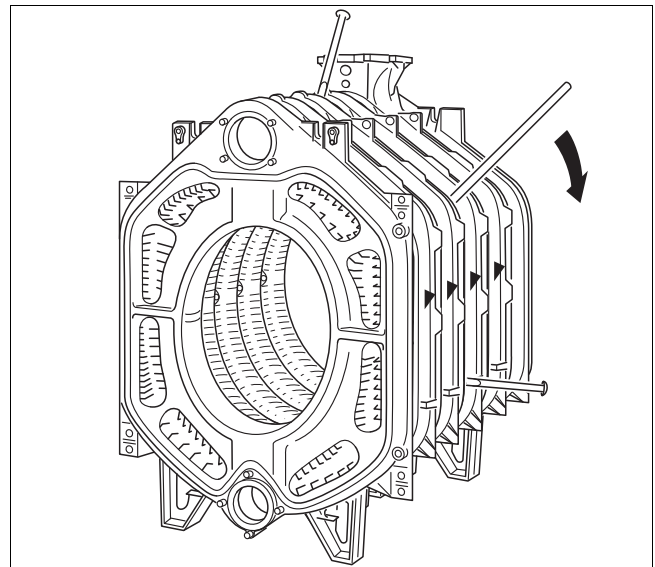

Fig 25 Separating the boiler block
- Hook the other outer steam tube elements (L₂) onto each other as shown in Fig. 25 (detail).
- Separate the boiler block at the leak location by driving (knocking) in flat wedges or chisels between the sections at the points provided at the top and bottom (→ Fig. 25).